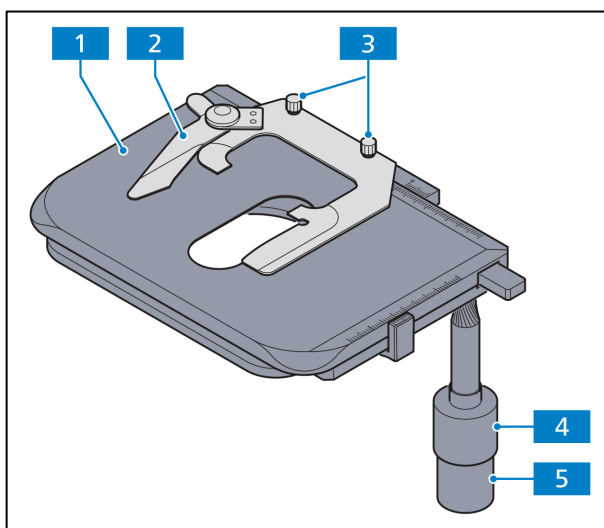

Fig. 2-12 Mechanical stage with specimen holder
- Mechanical stage (Fig. 2-12/1) with specimen holder (Fig. 2-12/2) for holding and positioning the samples
- Two clamping screws (Fig. 2-12/3) for attaching and removing the specimen holder
- Coaxial knurled knobs for X (Fig. 2-12/4) and Y adjustment (Fig. 2-12/5)